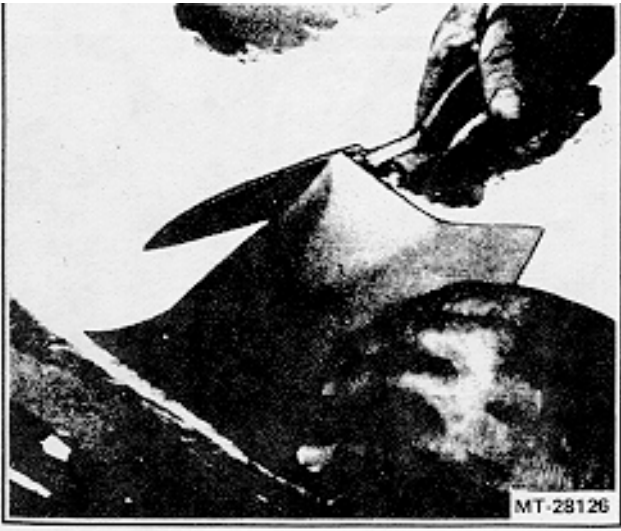

Figure 27 - Cutting Fiber Glass Mat
5. Then, using a cardboard template (Figure 27), cut the required pieces of mat large enough to extend 2 inches beyond the edges of the repair area